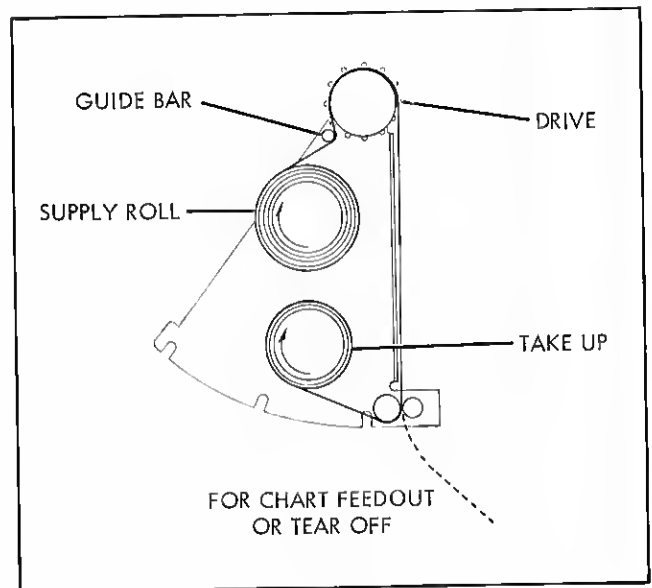

FIGURE 3-5. CHART LOADING DIAGRAM
c. Load paper. Before replacing chart magazine install a roll of 6" width graph paper as follows: (Refer to figure 3-5)
(1) Position the empty chart magazine as indicated in figure 3-5.
(2) Insert the supply roll between the upper spring loaded hubs with the elongated drive holes of the paper to the right.
(3) Thread paper from the new supply roll under the guide bar.
(4) Bring the paper over the top of the sprocket drive drum and engage the sprockets.
(5) Pull the paper down across the face of the chart magazine and feed through the slot at the bottom of the platen.
(6) Rotate the drive gear so that the paper will feed through the slot.
(7) The paper will now feed out through the bottom of the chart magazine and may be torn off as the operator desires. If this type of operation is desired, the chart paper magazine may be installed in the recorder. For operation with the chart stored on a take-up spool within the chart magazine, continue with steps 8 and 9.
(8) Install an empty takeup spool (supplied) between the two lower hubs. Index the left end of the spool so the drive stud on the left hub mates with the slot on the takeup spool.
(9) Attach the end of the chart paper on the takeup spool with adhesive tape. Rotate the drive gear until several turns of paper are on the take-up spool. Inspect for proper chart tracking without buckling and then install the chart magazine.